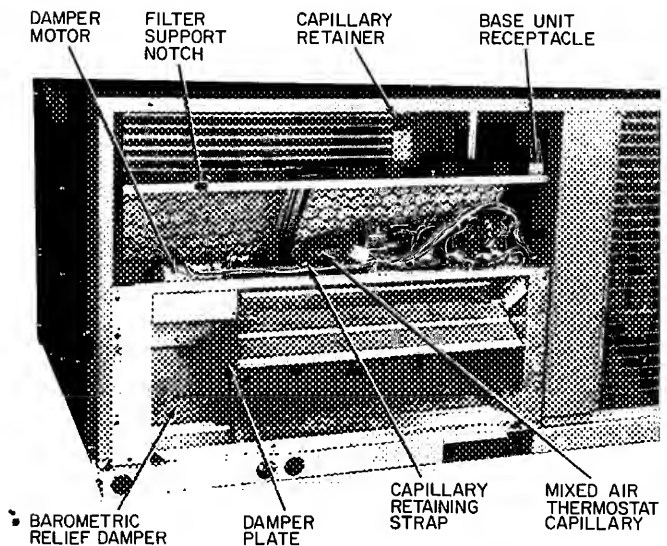

Fig. 19 — Economizer (004,005,006,007 Units)
4. Remove mixed air thermostat (MAT.) capillary retaining strap and stretch capillary through notch in filter support. See Fig. 19. Route through hook on upper left side of indoor coil and secure end of capillary to retainer on lower right side of indoor coil.
5. Fasten baffle to left side of damper plate with round head screws provided. See Fig. 19.